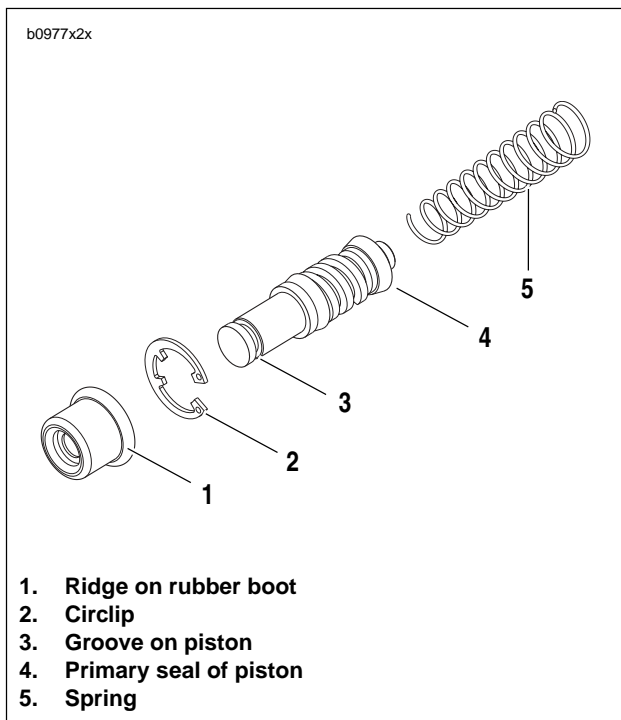

Figure 2-36. Front Master Cylinder Piston Assembly
2. See Figure 2-36. Assemble **new** piston components placing small end of spring (5) behind primary seal of piston (4).
6. See Figure 2-36. Install ridge on boot (1) into groove on piston (3).